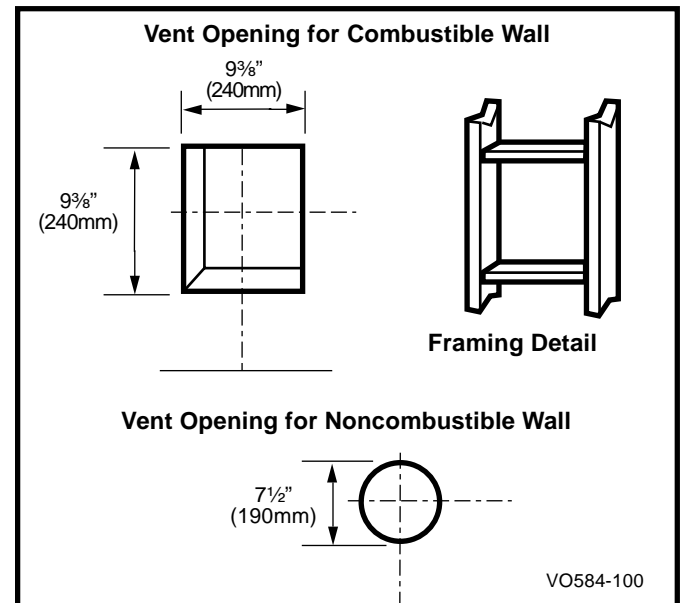

Fig. 21 Locate vent opening on wall.
Locate vent opening on the wall. It may be necessary to first position the fireplace and measure to obtain hole location. Depending on whether the wall is combustible or noncombustible, cut opening to size. (Fig. 21)
Combustible Walls (Fig. 21): Cut a 9 5/8" H x 9 5/8" W (240 mm x 240 mm) hole through the exterior wall and frame.
Noncombustible Walls (Fig. 21): Hole opening must be 7 1/2" (190 mm) in diameter.
1. Establish vent hole through the wall. (Fig. 21)